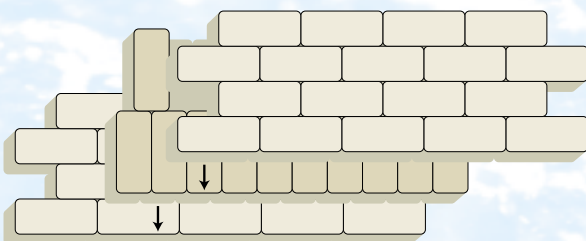

Figure 6: Completed sandbag wall (Viewed from end)
10. Place a course of sandbags on top of the PVC sheet (Figure 6).